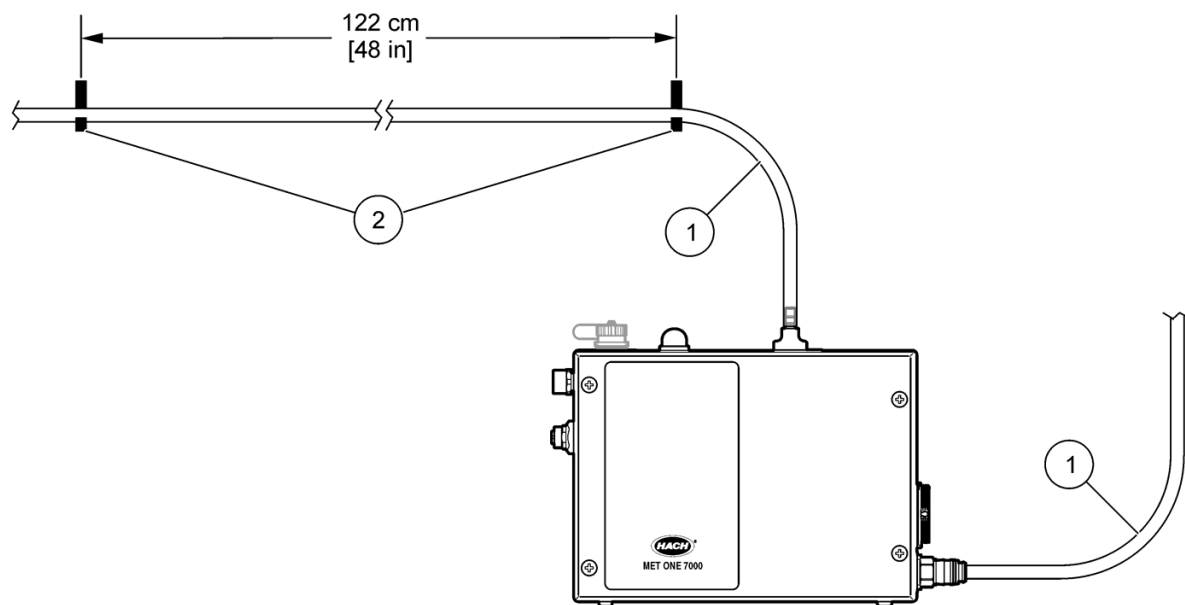

Figure 7 Tubing installation guidelines
7. Following the tubing connection guidelines, terminate the house vacuum at the back of the wall plate (Figure 7 on page 15).
4. Support the tubing with hooks or cable ties at intervals that are not more than 4 feet apart. Make sure that the tubing has a minimum bend radius of 4-inches (Figure 7).